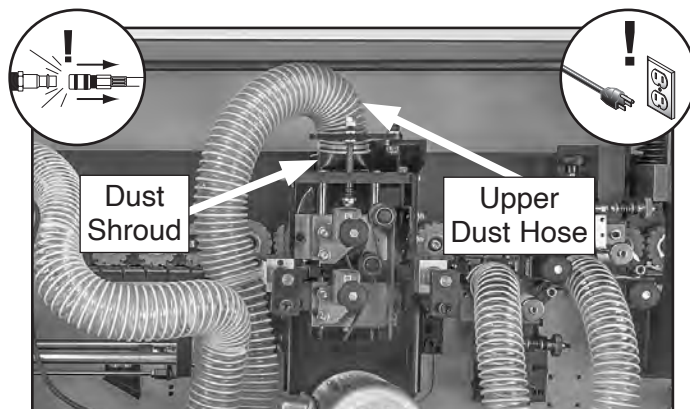

Figure 116. Location of upper dust hose.
3. Remove dust hose from upper flush trimmer dust shroud (see **Figure 116**).